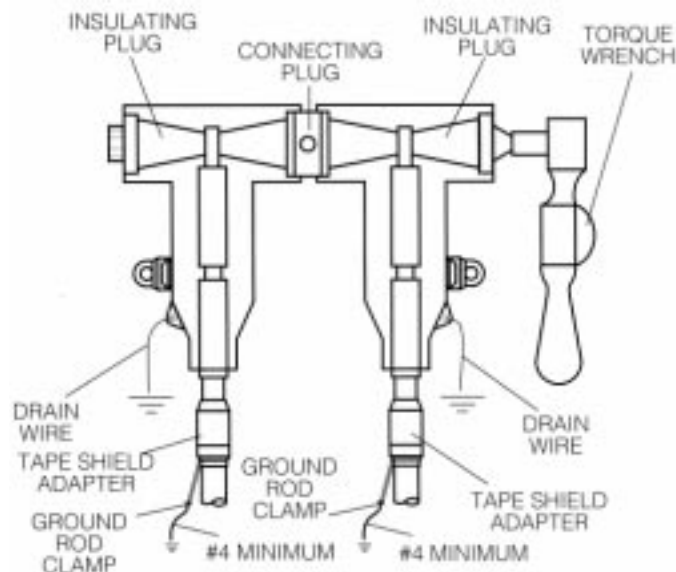

Figure 22.
- To complete the splice, insert second insulating plug into open end interface on end T-Body and thread onto connecting plug. Secure connecting plug with T-wrench and use torque wrench to tighten second insulating plug to 55 ft-lb of torque. (Refer to Figure 22.)